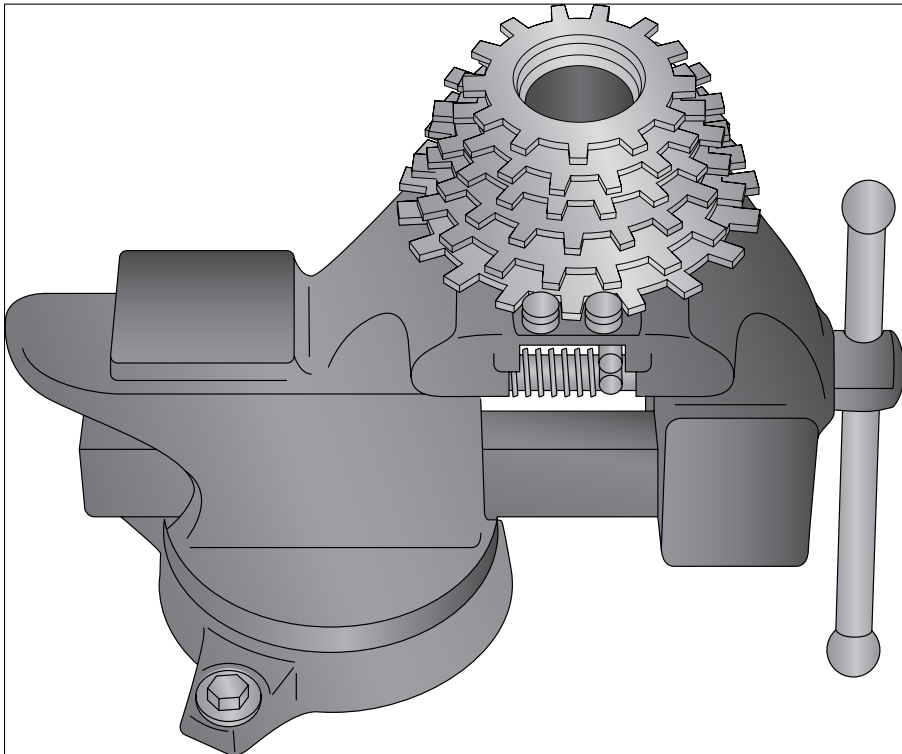

Figure 11-7:
1. **Secure the freewheel or cassette in a vise (as shown in Figure 11-7).**